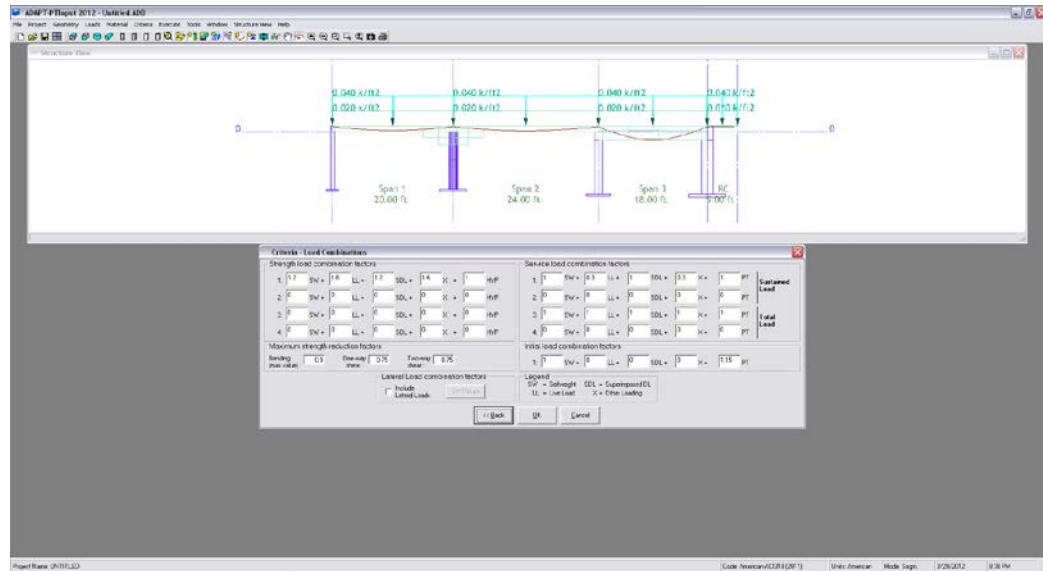

FIGURE 5.3-28
5.3.6.2 Input Load Combinations (Fig. 5.3-28, 29, 30)